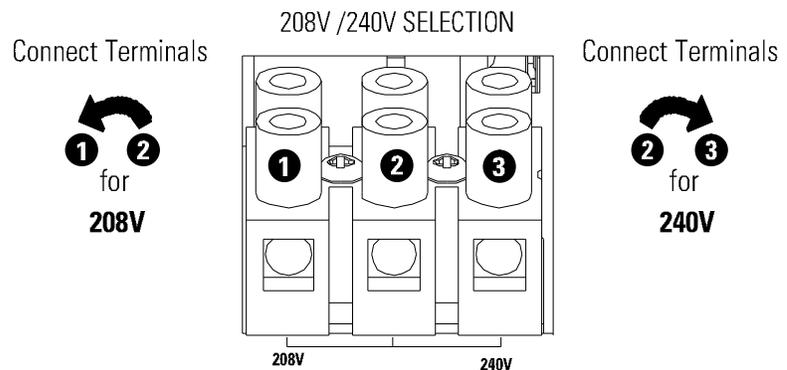

Figure 22. Wire Selected Voltage
2. On the voltage selection terminal block, use 6 AWG wire to connect a jumper from the middle terminal to either the 208V (left) or 240V (right) terminal (see Figure 22):